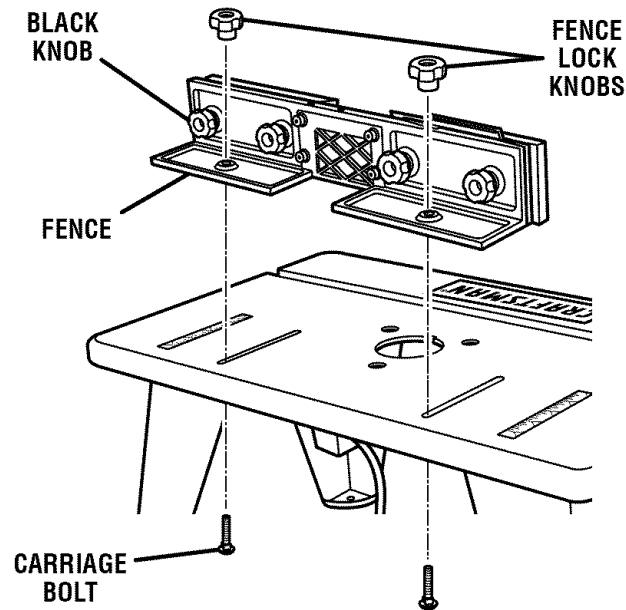

Fig. 6
See Figure 6.
- Position the fence on the table as shown in figure 6.